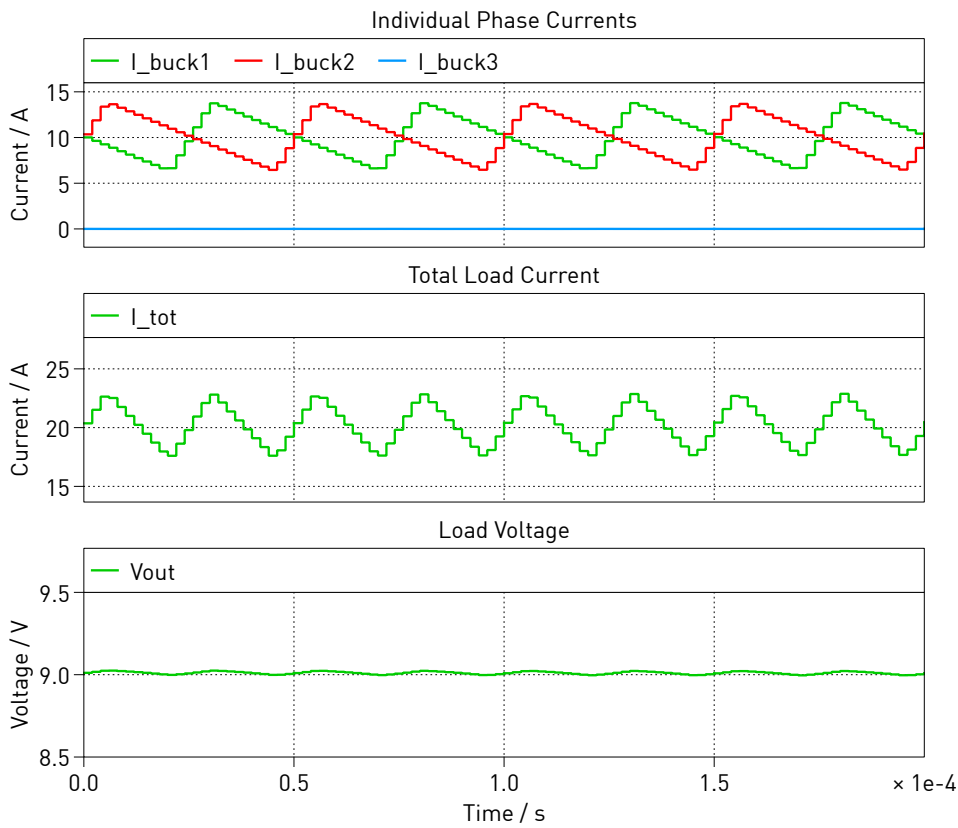

Figure 5: Simulation result with two active phases
- Next under External Mode, one can change the Constant block controlling the load step inside the Controller Box from the default [1 1] to [1 0]. This increases the load resistance, therefore decreases the load current. The real-time simulation waveforms should look like in Fig. 5. In this scenario only the first two buck converter branches are controlled to be active, balanced and interleaved with a 180-degree phase shift between them.